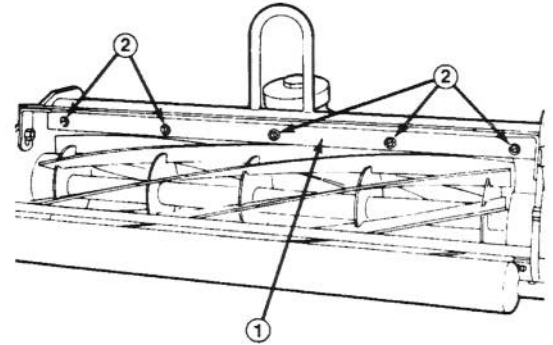

Figure 9
- 1. Loosen screws securing top bar (Fig. 9). Insert 0.060 inch
feeler gauge between top of reel and bar and tighten screws (Fig. 9). Assure bar and reel are equal distance apart across complete reel.